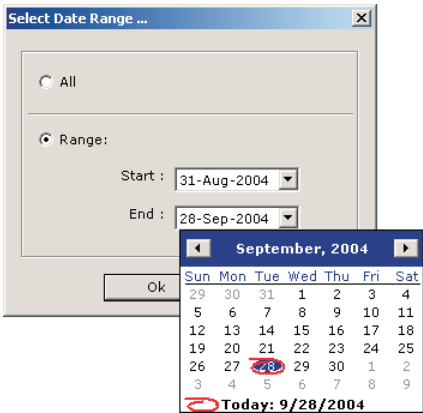

Figure 4-24. Event Log Data Range
1. Select **Tools>Event Log>Receive** to copy the entire contents of the system event log to a text file or a range of system events within the log based on occurrence dates. In response, a the prompt shown in Figure 4-24 is displayed.